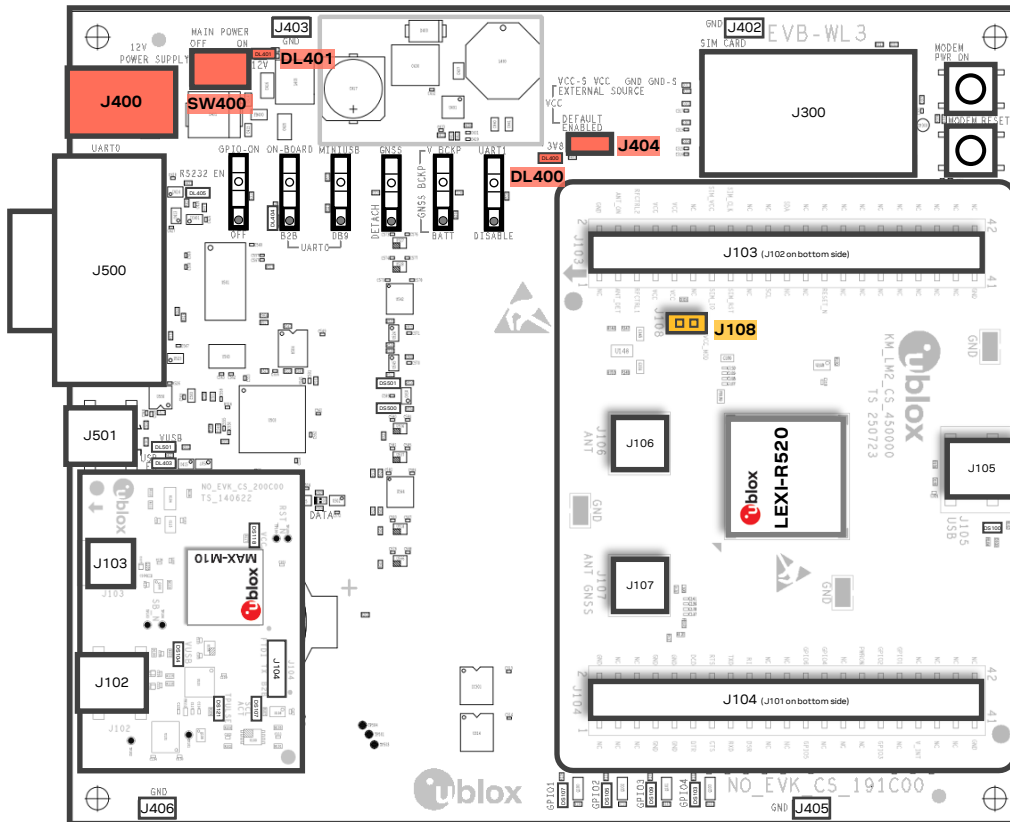

Figure 3: Power supply set up
-  Issue AT+CPWROFF command before switching off the main power supply of the EVK-LEXI-R520 by turning the **SW400** main power switch to the “OFF” position (see Figure 3), otherwise settings and configuration parameters may not be saved in the non-volatile memory of the cellular module.